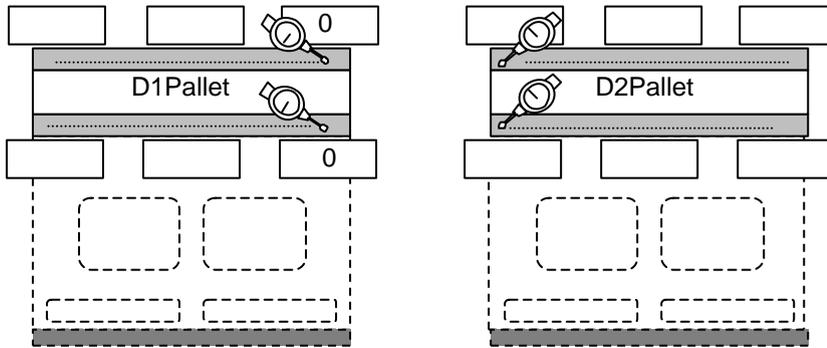

Figure 41
- Flatness of the top plates on the pallets is important to maintain consistent pick up. Set up two dial gauges as pictured and indicate the top surface of the feeder plate at the positions illustrated in Fig.41. (Tolerance: within 0.10mm)